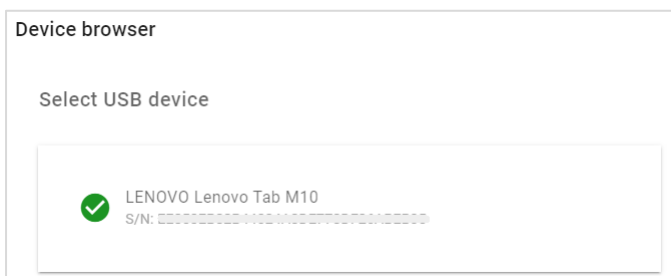

Figure 59
- Select the USB device (Figure 59). The successful connection is indicated by a green check mark.